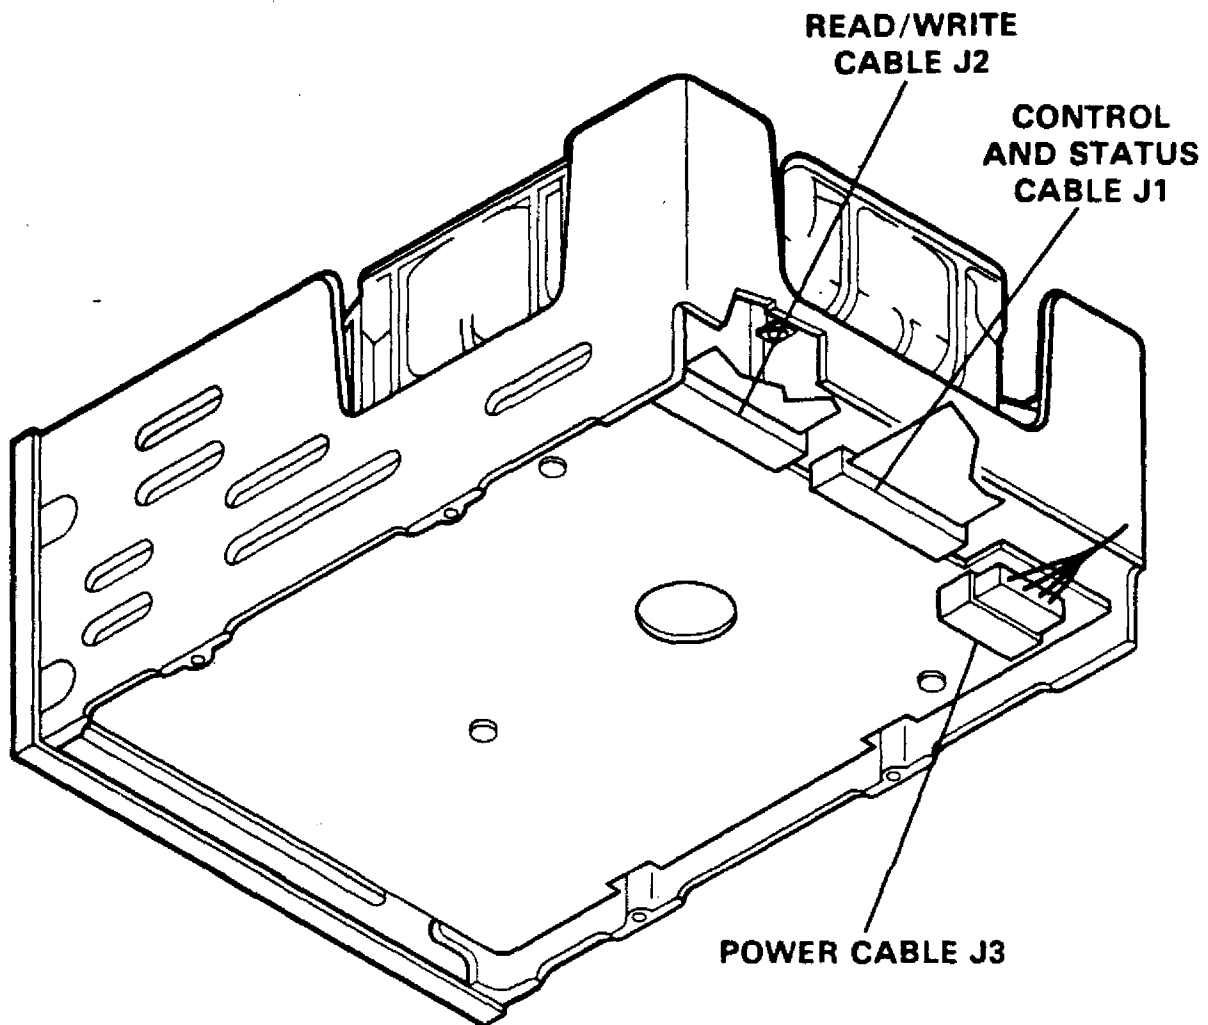

**Figure 2: INTERFACE CONNECTOR PHYSICAL LOCATIONS
13. Re-install the drive into the CS1H or HD20 cabinet. Route the Read/Write cable and the Control Status cable as the WDI II data cable had been routed. See figure 2 for cable connections. Install the STDC Controller board and connect the Read/Write and control cables. Connect this board last in the priority chain as described in the STDC Manual.